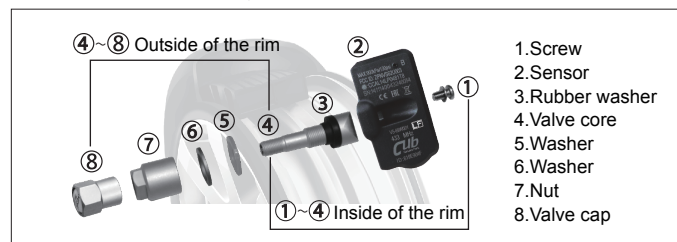

Fig 3
- (Fig 3) Remove the sensor. Loosen the fixing screw, allow the sensor separate from the valve, and release the nut to take it apart from the valve.